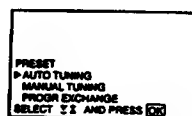

Fig. 5
- 2 Select "PRESET" with Δ+ or ▽- and press OK. The PRESET menu appears. (See Fig. 5.)